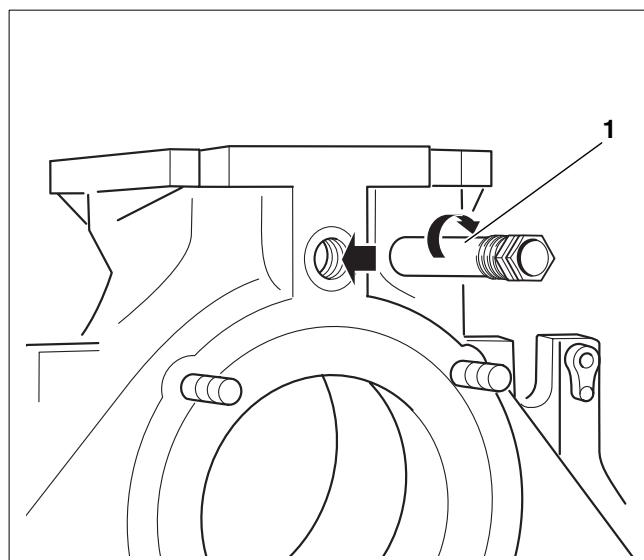

Fig. 22 Assembly – Fitting sensor pocket
- Screw the 3/4" sensor pocket (length 110 mm) into the 3/4" tapped hole in the flow connection (Fig. 22, **ref. 1**).